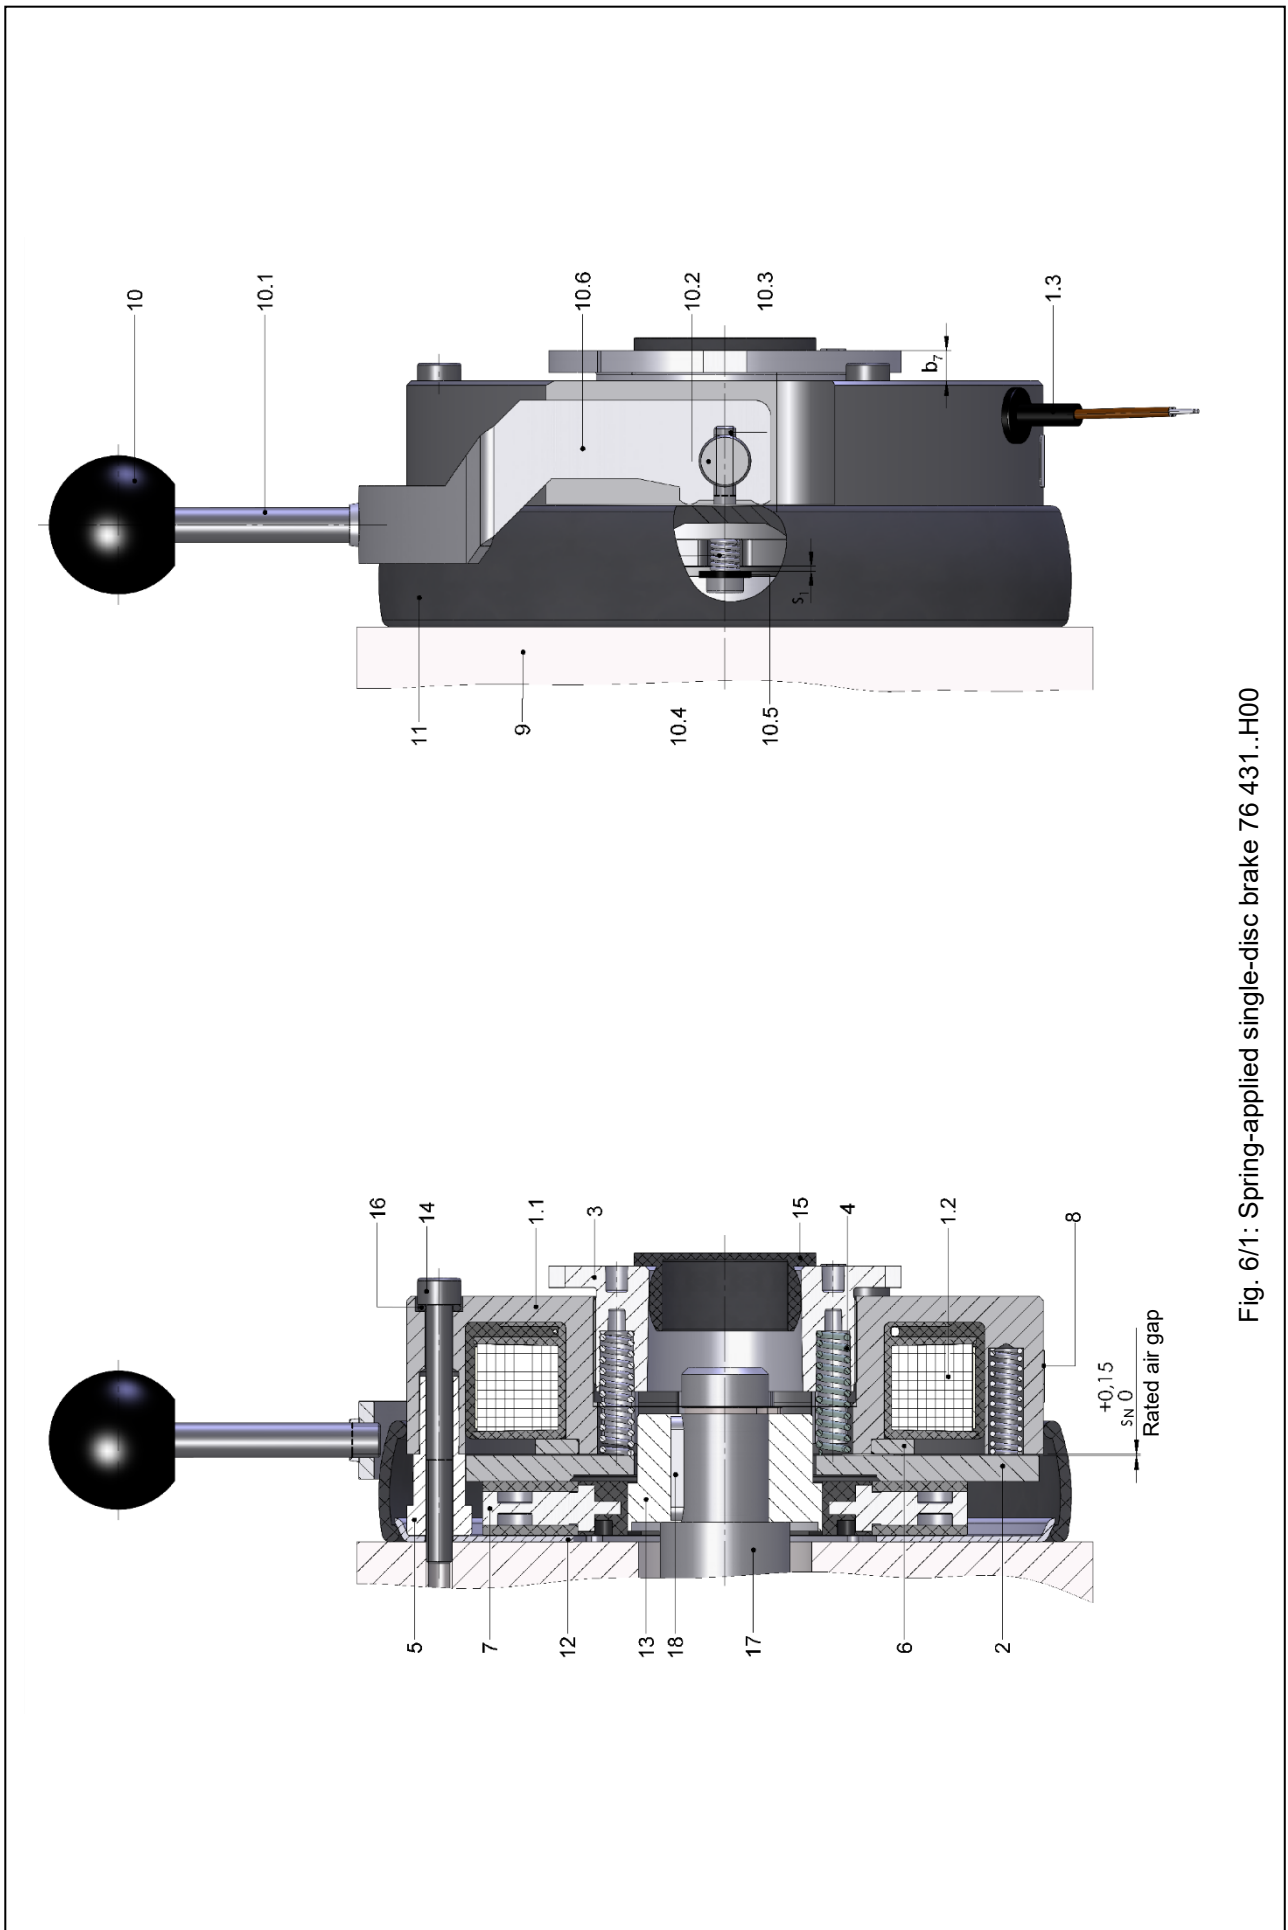

Fig. 6/1: Spring-applied single-disc brake 76 431..H00
The solenoid housing (1.1) of the spring-applied single-disc brake accommodates the firmly fitted field coil (1.2) with connecting cable (1.3) – which exits on the brake circumference – and the compression springs (4). The compression springs (4) press the friction disc (7) over the armature (2) against the friction plate or flange¹⁾ (12) and thus against the mounting surface (9) (e.g. motor end shield). The frictional connection obtained in this manner between the friction surfaces of the friction disc (7) and armature (2) or friction plate (12) / flange (12) produces the braking effect of the spring-applied brake. The rated air gap 's_n' is factory-adjusted by means of the spacer sleeves (5). The spacer sleeves (5) are tightly pressed into the solenoid housing (1.1). They ensure that the armature (2) is kept in a fixed tangential position. The friction disc (7) is connected with the hub (13) via a spline connection or square socket ²⁾. This connection ensures that the friction disc (7) is tangentially fixed, but movable in axial direction. The hub (13) is firmly fixed to the shaft (e.g. motor shaft) (17). The brake is firmly mounted to the mounting surface (9) (e.g. motor end shield) with the mounting screws (14) (see Fig. 6/1). When DC voltage is applied to the brake field coil (1.2), the force of the electromagnetic field thus generated counteracts the spring force of the compression springs (4). The armature (2) is moved axially towards the solenoid housing (1.1) and the braking action is neutralized. The shaft to be braked (17) (e.g. motor shaft) is not exposed to any axial loads exerted by the spring-applied single-disc brake. When using spring-applied single-disc brakes with hand release (10), openings must be provided in the part enclosing the brake (e.g. fan cover) so that the hand release can be installed. The hand release (10) allows the brake to be released manually (e.g. in case of power failure). When a collar (11) is fitted to the brake, the hand release (10) can only be operated by pushing the lever away from the mounting surface (9).
List of reference numerals in Fig. 6/1:
Insert the 2 tie bolts (10.2) into the bores provided in the yoke (10.6). Push the yoke (10.6) with the inserted tie bolts (10.2) into the cavity provided in the spring-applied single-disc brake. (Only brakes with hand release option will have this cavity.) Push the 2 discs (10.5) and the 2 return springs (10.4) on a socket head cap screw (10.3). Apply Loctite 241 to the 2 socket head cap screws (10.3). Insert the screws with the discs (10.5) and return springs (10.4) through the bores provided in the solenoid housing (1.1) and fasten them with the 2 tie bolts (10.2). Use a feeler gauge to adjust the distance s_1 (see Table 8/1 and Fig. 6/1) when the brake is released (attracted armature (2)). Check that s_1 is not exceeded and that it is evenly adjusted on both socket head cap screws (10.3). Screw the hand release lever (10.1) into the yoke (10.6) and secure it by applying Loctite 241. The required actuation forces F and the maximum permitted actuation forces F_{max} are specified in Table 8/1. The specified actuation forces F apply at the maximum rated torque (standard).
Check that the hand release (10) is in a central position (see Fig. 6/1) when not in use. This is crucial to ensure reliable brake engagement. Otherwise, the full braking effect of the spring-applied single-disc brake may not be reached. In this case, the machine (e.g. motor) must be stopped immediately and must not be restarted until correct operation of the hand release (10) and automatic return of the hand release lever in its central position (see Fig. 6/1) has been ensured.
Pull the collar (11) over the solenoid housing (1.1). Check that the sealing lip of the collar (11) is located precisely between the friction plate (12) and the mounting surface (e.g. motor end shield) (9) on the mounting surface side or precisely in the flange (12) groove (sizes 19 to 29) (see Fig. 6/1). Ensure that on the brake side the collar (11) sealing lip touches the circumference of the solenoid housing (1.1) or is located in the groove (sizes 19 to 29). When a collar (11) is fitted to the brake, the hand release (10) can only be operated by pushing the lever away from the mounting surface (e.g. motor end shield) (9).
The screw plug (15), if used, must be inserted into the shaft opening on the rear of the brake (see Fig. 6/1).